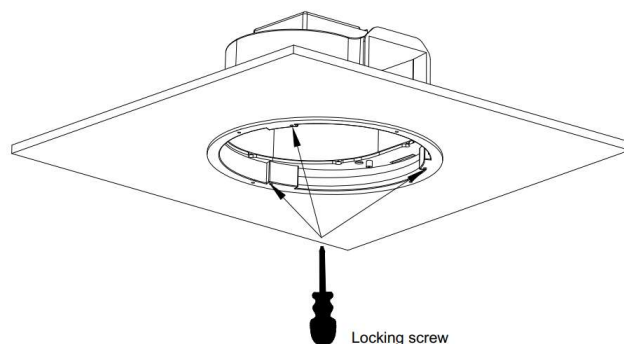

Fig 4.
12. Position fan in hole and with screwdriver, rotate mounting screws until slip blocks firmly secure fan onto ceiling plaster. *Do not over-tighten.* (Fig 4)
13. Replace front fascia by locating spring hole slots in body or fan. (Fig 4).